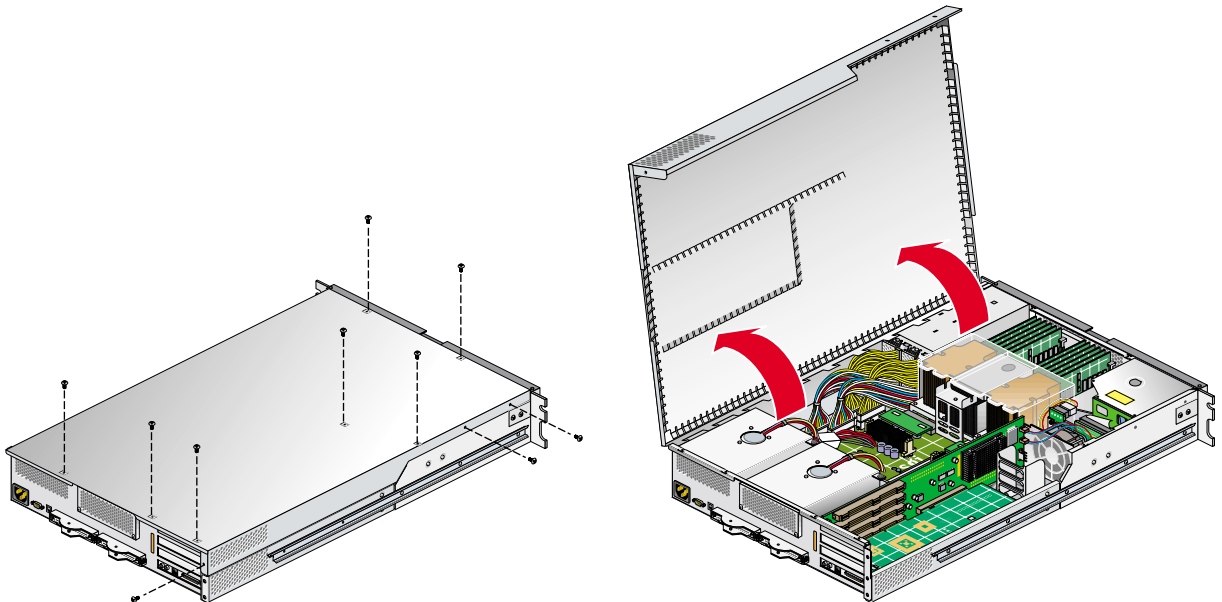

Figure 3-1 Opening the System Cover
1. To remove the module's top cover and access the internal system components, remove the ten Phillips screws as shown in Figure 3-1.